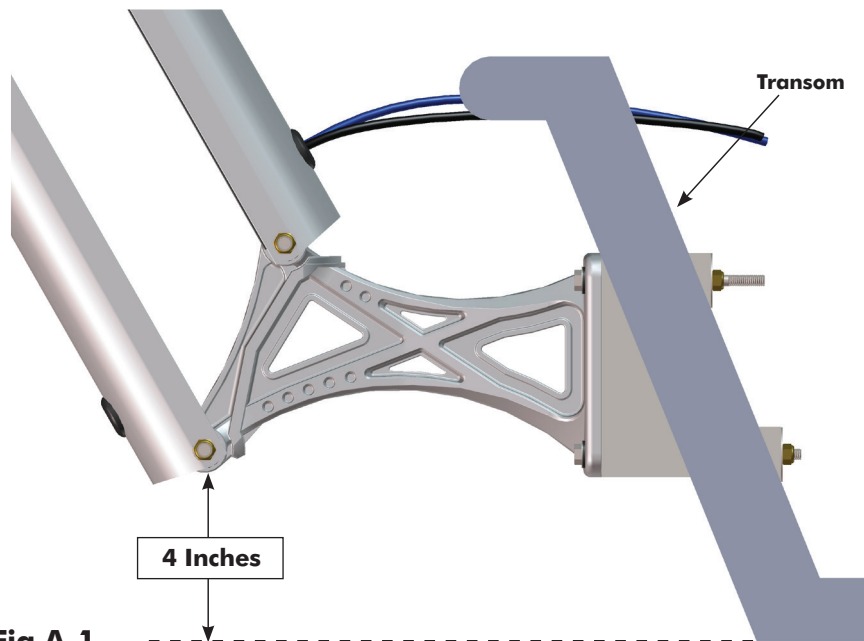

Fig A-1
1. Place a straight edge on the bottom of the hull directly below and centered from the desired mounting location. The lowest point of the Power-Pole shallow water anchor will need to be at least 4" above this straight edge **Fig A-1** If the Power-Pole shallow water anchor is mounted lower than the 4" minimum the vessel may experience adverse handling effects.